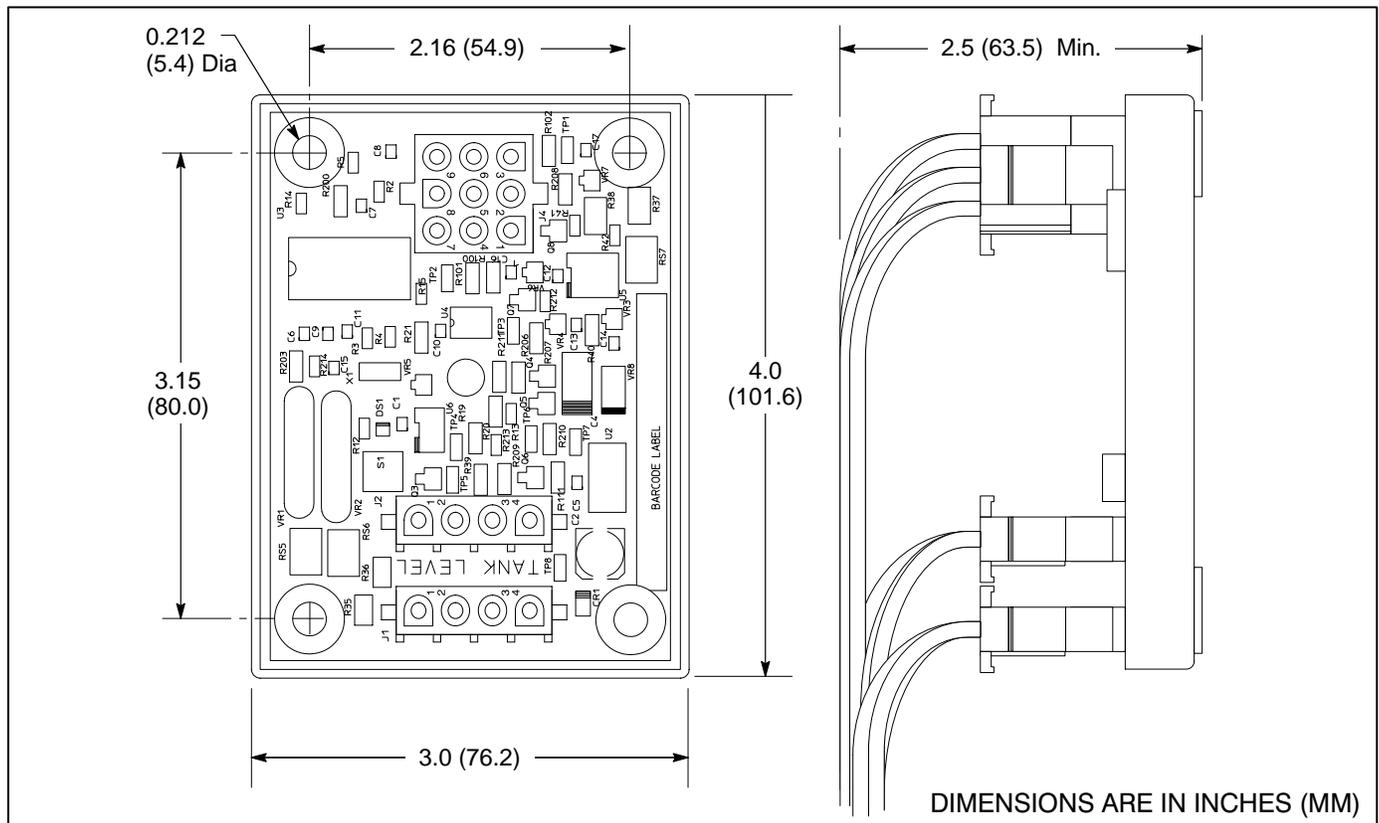

FIGURE 8-1. TANK LEVEL NODE
2. Drill mounting holes as shown in Figure 8-1. Make sure you do not drill into other electrical components.